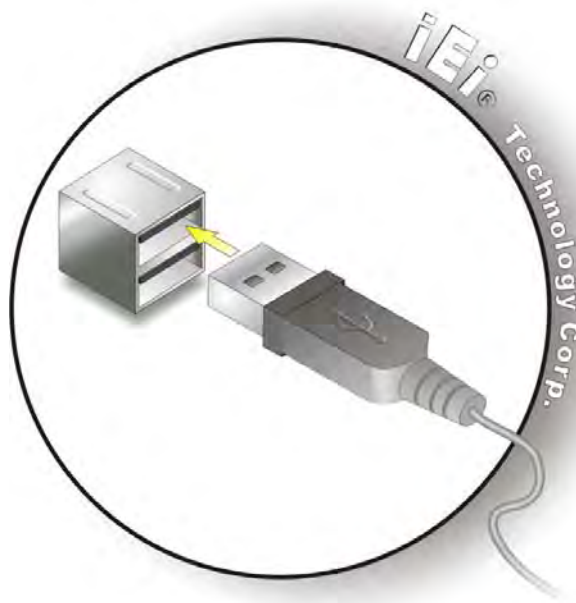

Figure 4-19: USB Connector
Step 2: Insert a USB Series "A" plug. Insert the USB Series "A" plug of a device into the USB Series "A" receptacle on the external peripheral interface. See **Figure 4-19**.